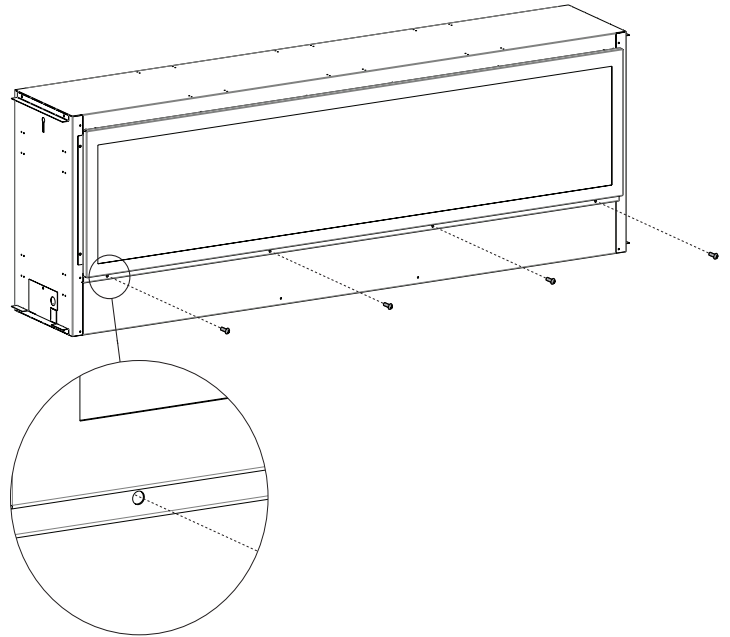

Figure 7
8. Using four provided #10 x 1 inch screws, attach the bottom of the inner glass-frame to the fireplace as shown in Figure 7.